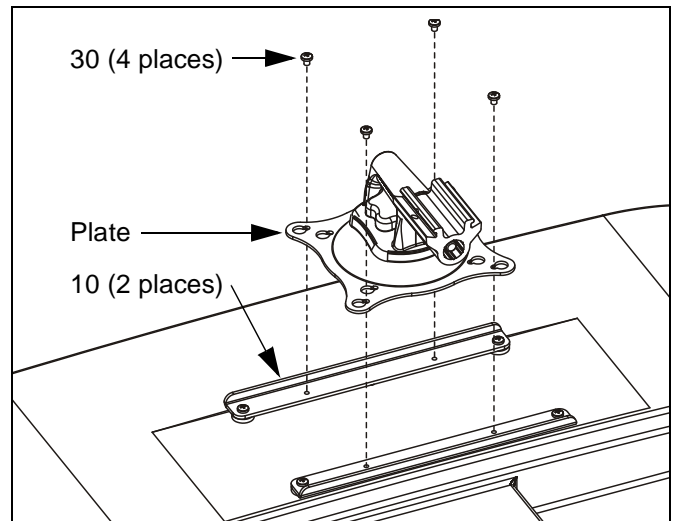

Figure 4: Install Centris Head
5. Using Phillips screwdriver, install four screws (30) through plate into brackets (10) (See Figure 4). Tighten screws.